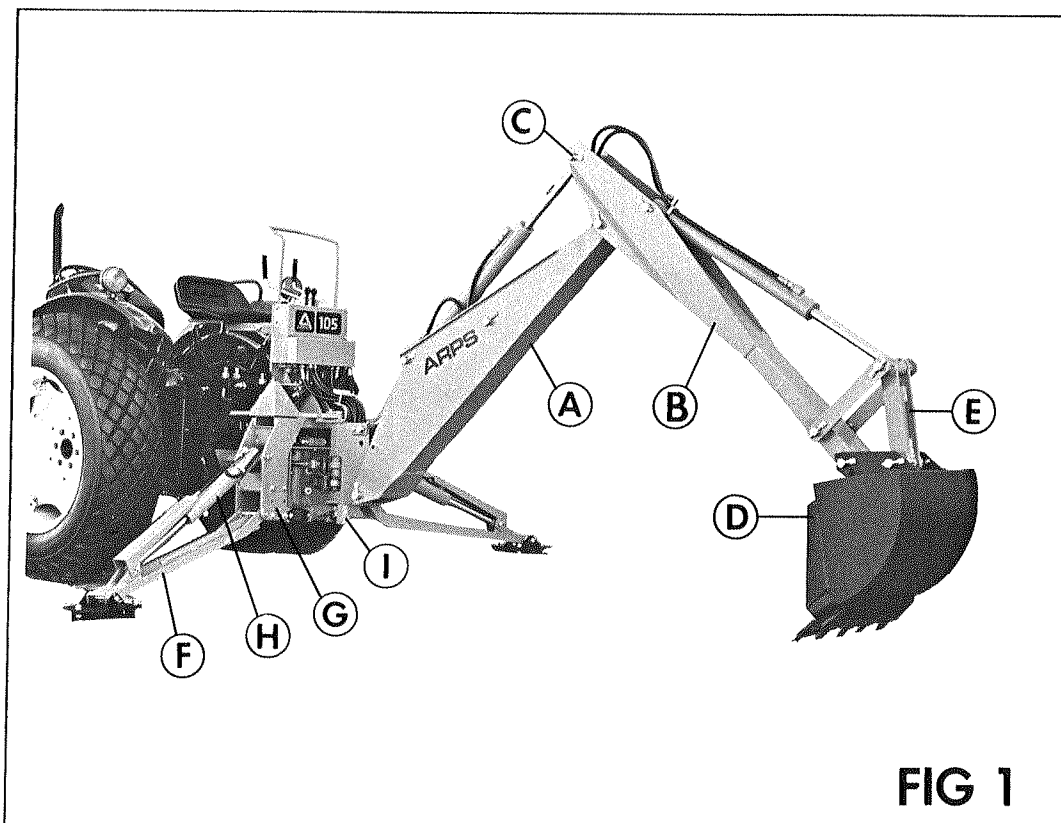

FIG 1
1. OPEN-CENTER SYSTEM WITH RETURN OIL NOT REQUIRED FOR LUBRICATION - Fig 1:
The pressure hose on the backhoe control valve should be connected to the pressure port of the tractors remote couplers or directly to the tractor valve. The return hose on the backhoe control valve should be connected directly to a port on the reservoir as shown in Fig 1.